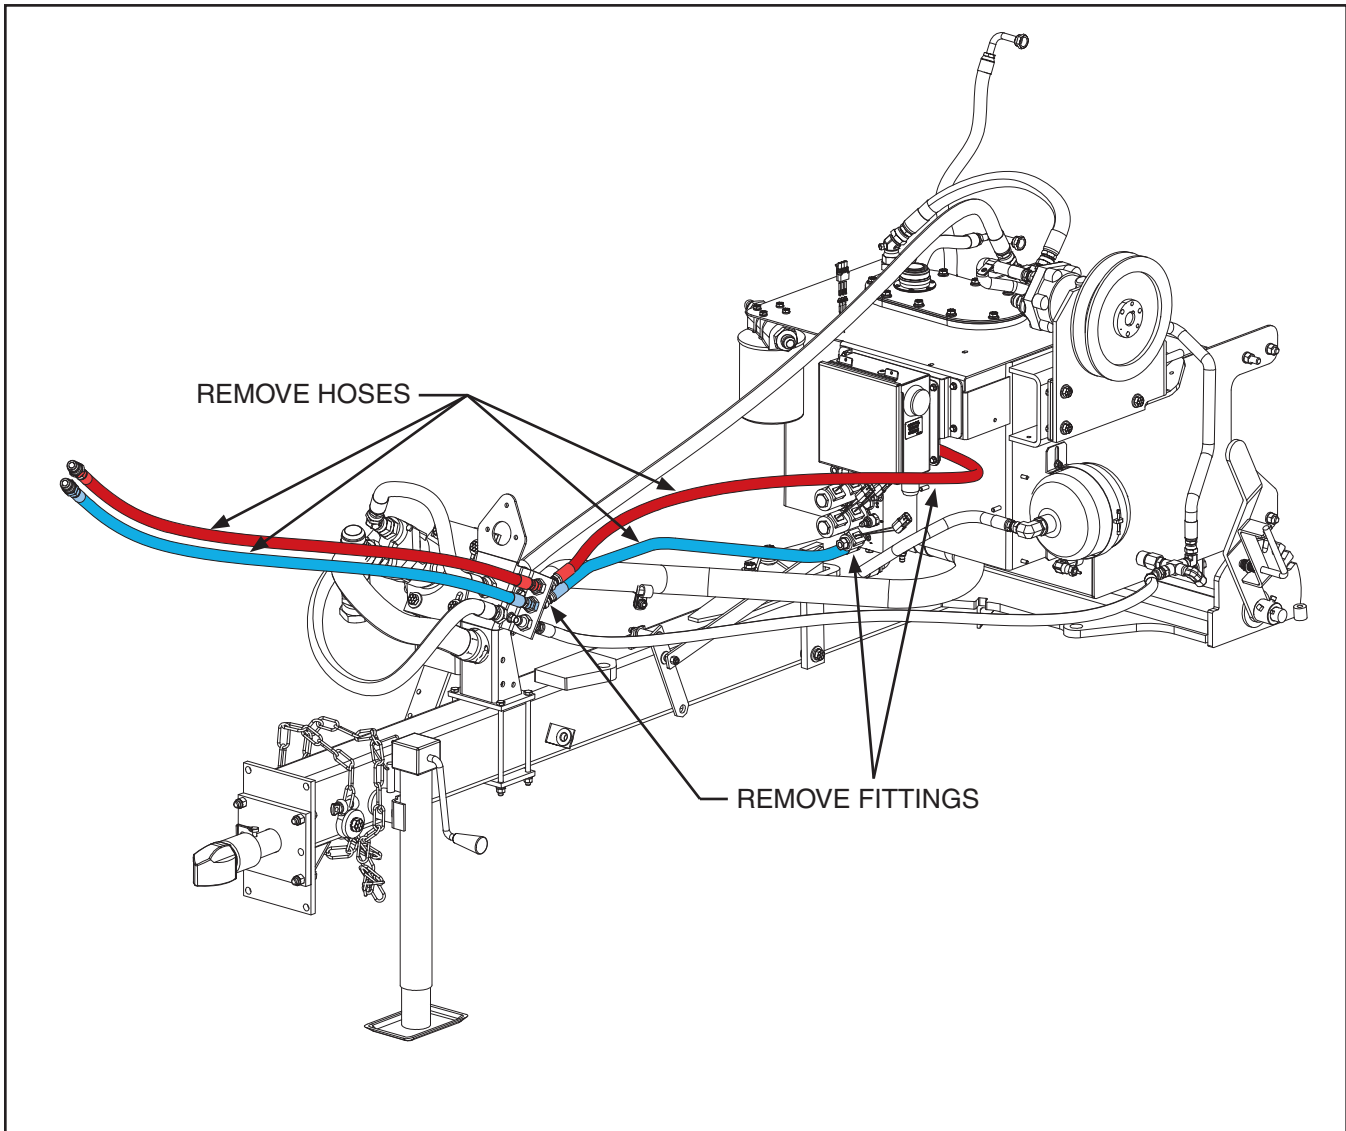

Figure 1
1. Remove existing Pressure and Return hydraulic hoses between the tractor and the baler mounted hydraulic manifold (2 from tractor to drawbar mount, 2 from drawbar mount to baler mounted hydraulic manifold) (See Figure 1). These hoses will no longer be used.
2. Remove the fittings attached to the drawbar that were used to connect the Pressure and Return hydraulic lines from the tractor and manifold (See Figure 1). These fittings will no longer be used.